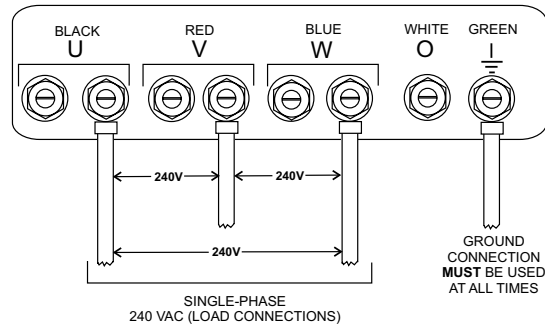

Figure 29. UVWO Terminal Lugs 1Ø-240V Connections
2. Connect the load wires to the UVWO terminals as shown in Figure 29.